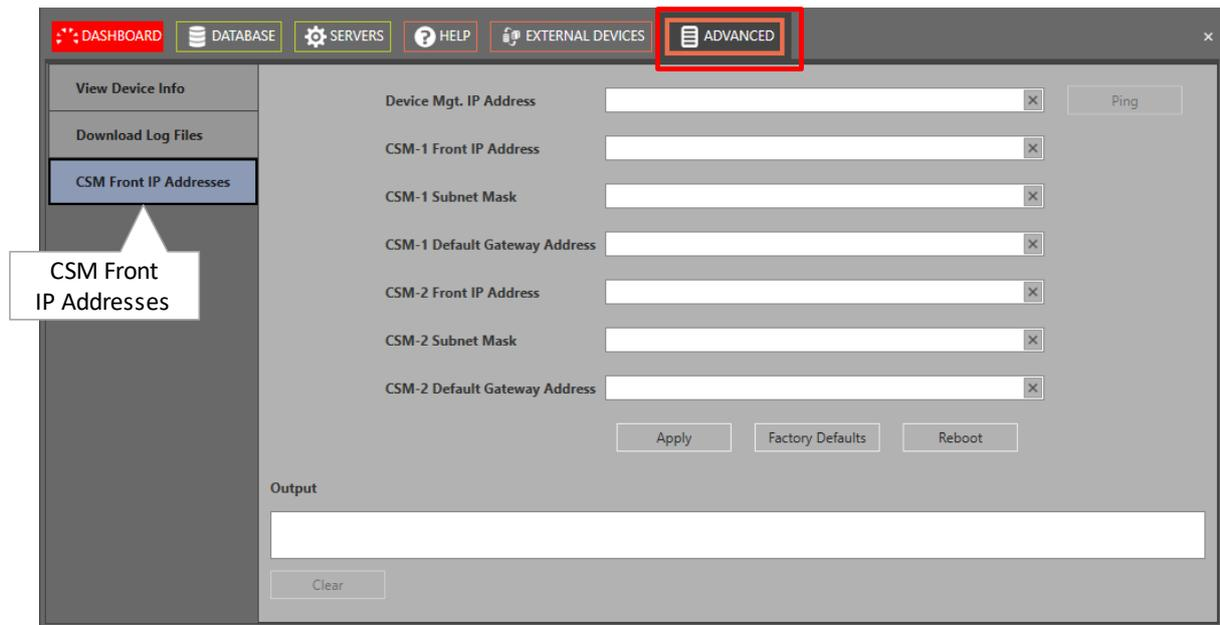

Figure 27 Advanced Tab: CSM Front IP Addresses
1. In Figure 27 in the 'Device Mgt. IP Address field', just fill out the Mgt. IP address (*) of the node with the CSM that must be have another IP configuration. Click 'Ping' to check whether the HiProvision PC can reach the node;
2. In Figure 27, Fill out the current IP address of the device (or CSM that was already configured) in the 'Device Mgt. IP Address' field and Click 'Ping' to check whether the HiProvision PC can reach the device;
2. In Figure 27, Fill out the current IP address of the device that must be reset to factory defaults and click 'Ping' to check whether the HiProvision PC can reach the node;